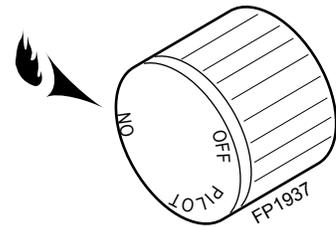

Figure 10
3. Turn control knob to "ON" position following the lighting instructions in owner's manual. Use soapy water to check for leaks around fitting of aluminum tubing. Light burner. *Figure 10*